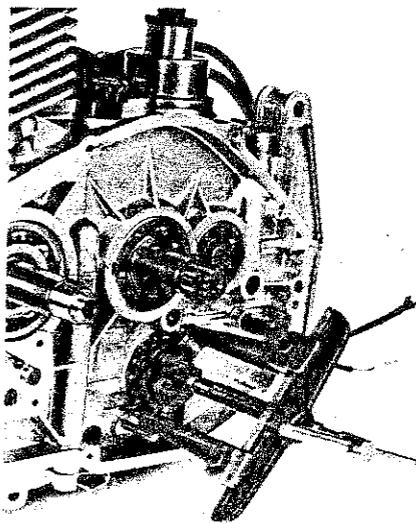

Fig. 144
- 6) The pin holding plate is a push fit on the selector drum: to extract it undo the central Allen bolt and if necessary, use a suitable puller (Figs. 144 and 145).